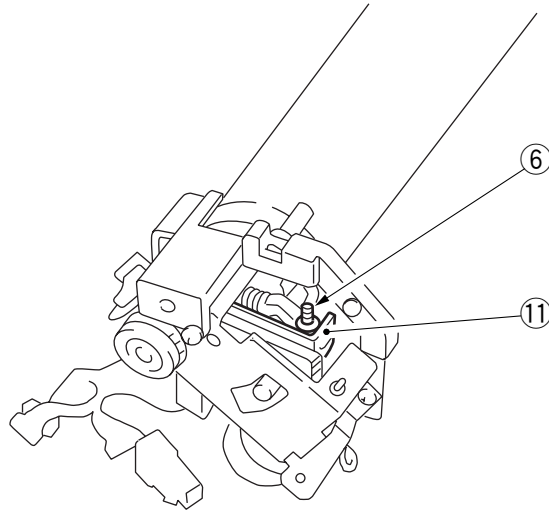

Figure 6-209
- 8) Release the pressure by positioning the screw ⑥ and the bushing (rear) as shown in Figure 6-209.